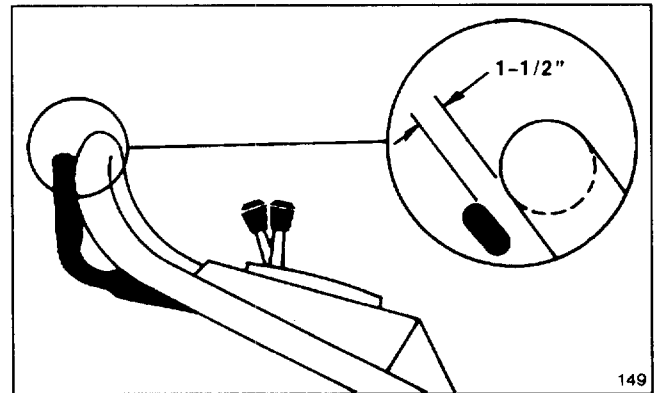

Figure 14
2. Push the control bar down to the lowest position (Fig. 14). This "latches" the mechanism prior to engaging the blade.
3. Lift the control bar to the normal "blade engaged" position, about 2" below the handle (Fig. 14). The "fan" noise indicates that the mower blade is engaged and rotating.
2. Lift control bar until some resistance is felt. Control bar should be 1-1/2" from handle when properly adjusted (Fig. 14).